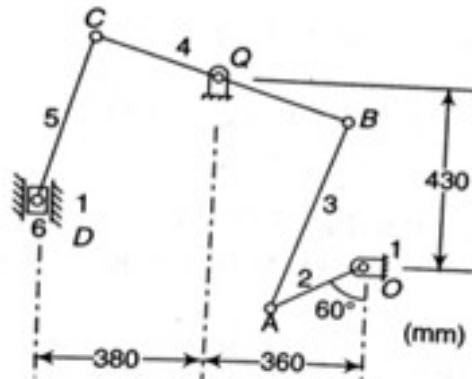

Figure: 2
4. Figure 2 shows a six link mechanism. The dimensions of the links are $OA=220$ mm, $AB=485$ mm, $BQ=310$ mm, $BC=590$ mm and $CD=400$ mm. For the position when the crank OA makes an angle of 60° with vertical, find the velocity of the slider D. The crank OA rotates clockwise at 150rpm. [15]